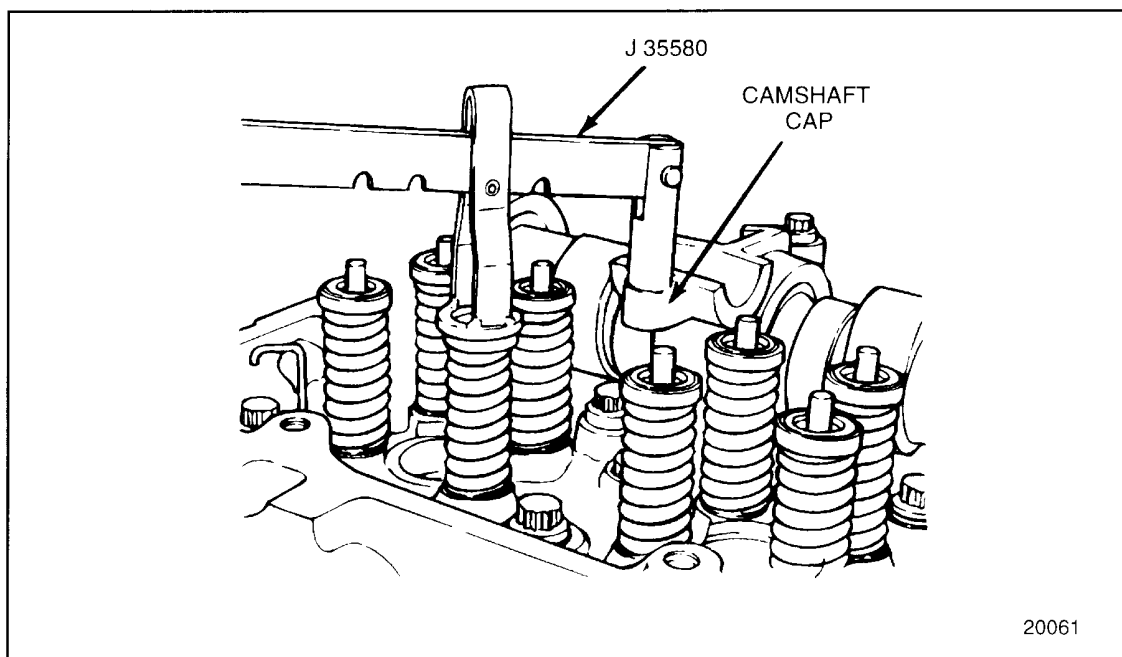

Figure 1-69 **Installing Valve Spring Compressor**
5. Insert the threaded portion of the valve spring compressor, J 35580 into the threaded inboard camshaft cap hole adjacent to the valve being worked on. See Figure 1-69.